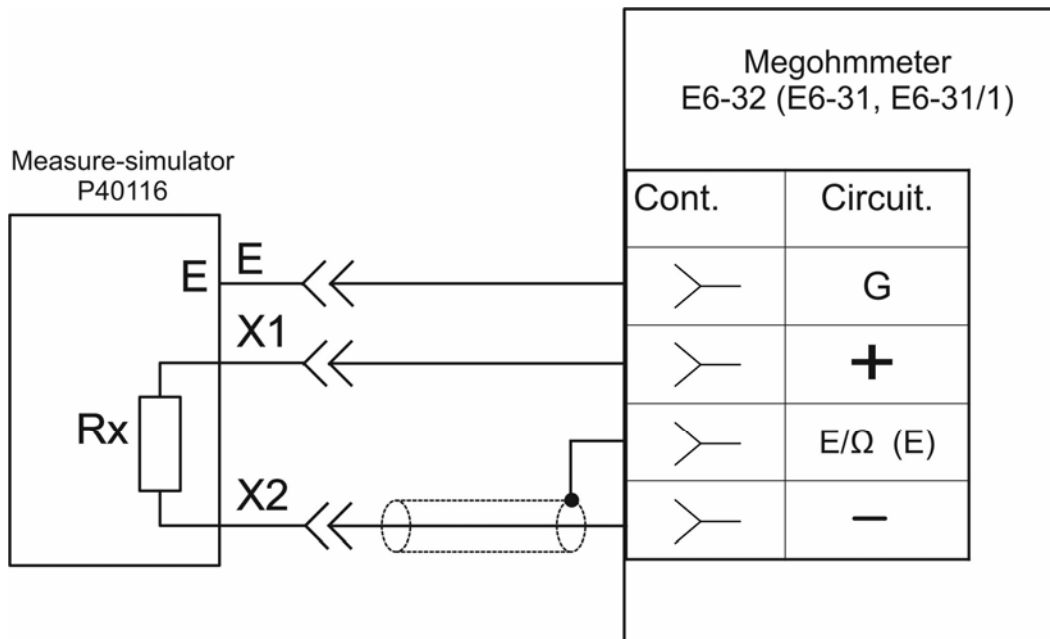

Figure 6.2 - Diagram for check of insulation resistance measurement error
- assemble the test setup in accordance with Figure 6.2. Shielded measuring cable PAПM.685631.001 or ПЛПА.685551.001 is used for measurement of resistance over 10 GΩ and over 1 GΩ with voltage less than 250 V.